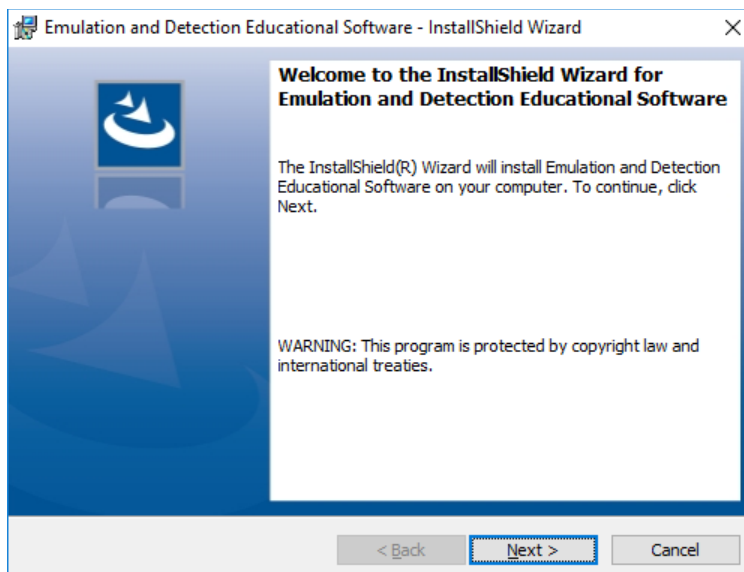

Figure 2.5: The hardware setup including the Digital Detector Emulator DT4800 and the Digital MCA DT5770.
1. Check that the whole hardware is properly connected and powered on (see Figure 2.5).